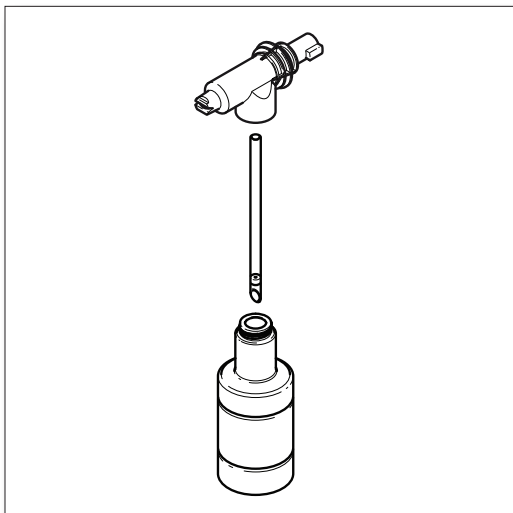
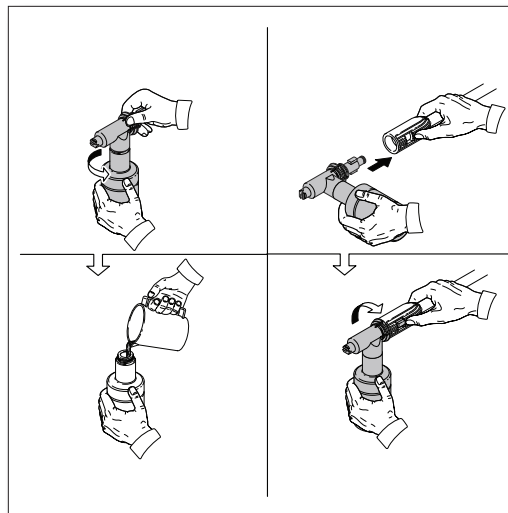

Fig. 11
Fig. 12
- When using the detergent bottle, fill it with a properly formulated detergent or cleaner with a water ratio according to instructions on the container **(Fig. 11)**. The detergent bottles comes with a straw which is filled into the screw-on top. If you do not see the straw, look inside the bottle and attach it to the screw-on top. **(Fig. 12)**